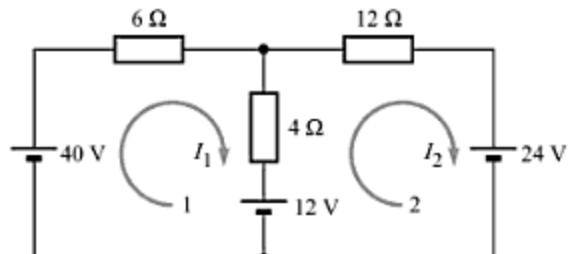

Fig. A-64
- A-21.** Determine the current in 4-Ω resistor in the circuit of Fig. A-64. [Ans. 0.83 A]